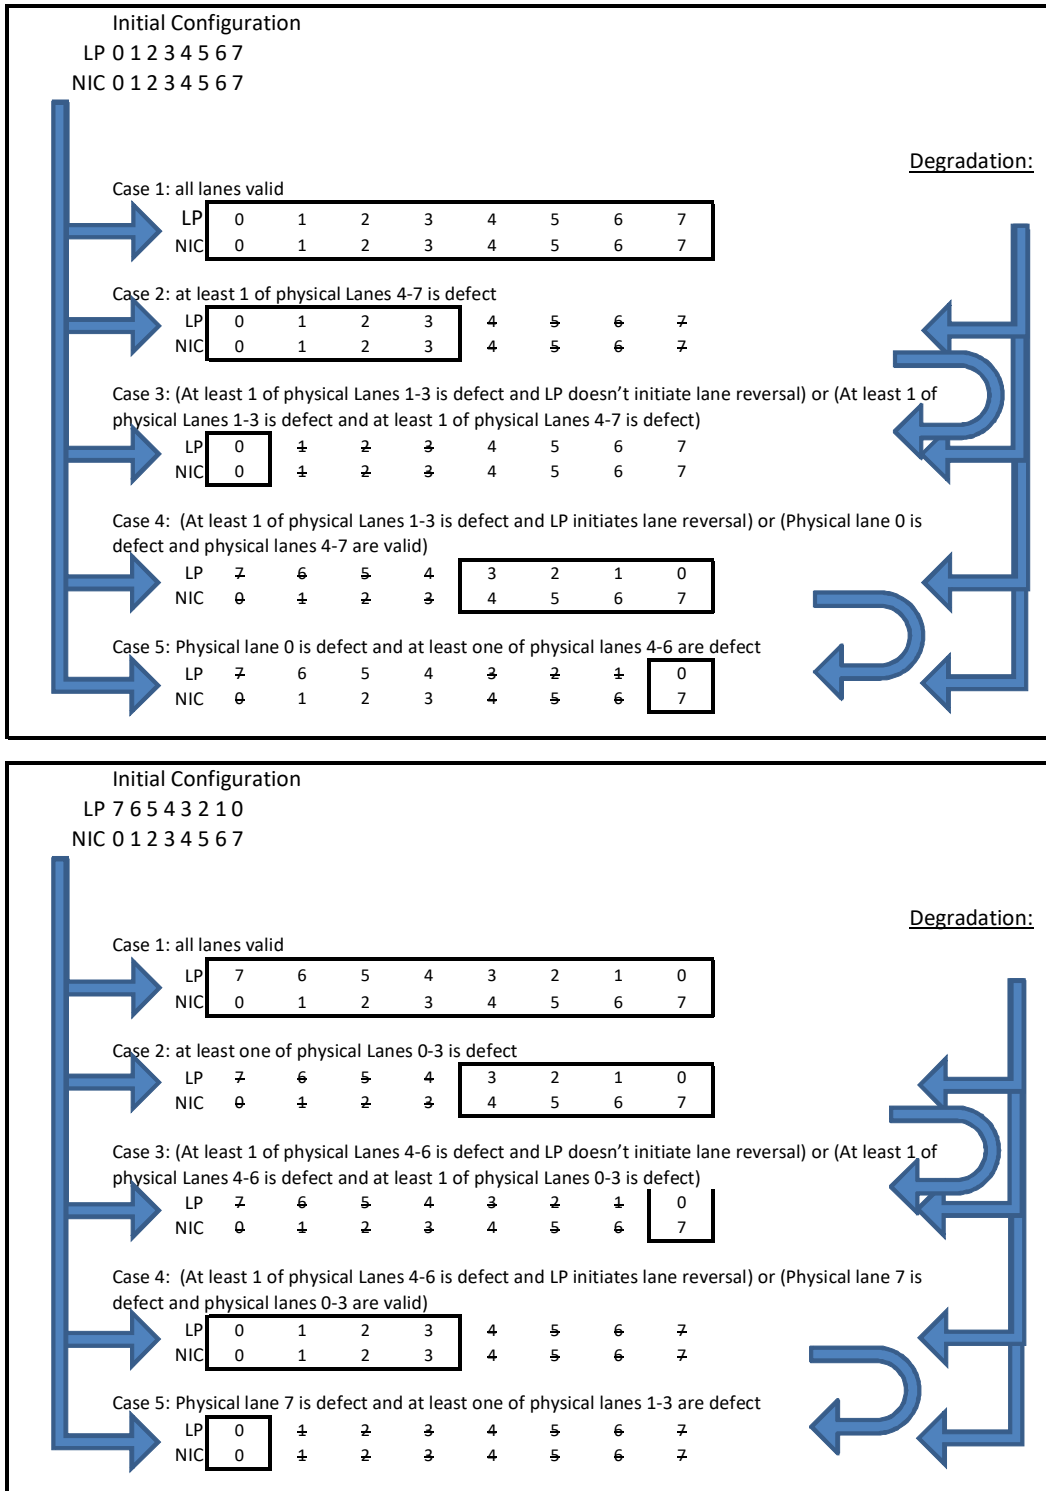
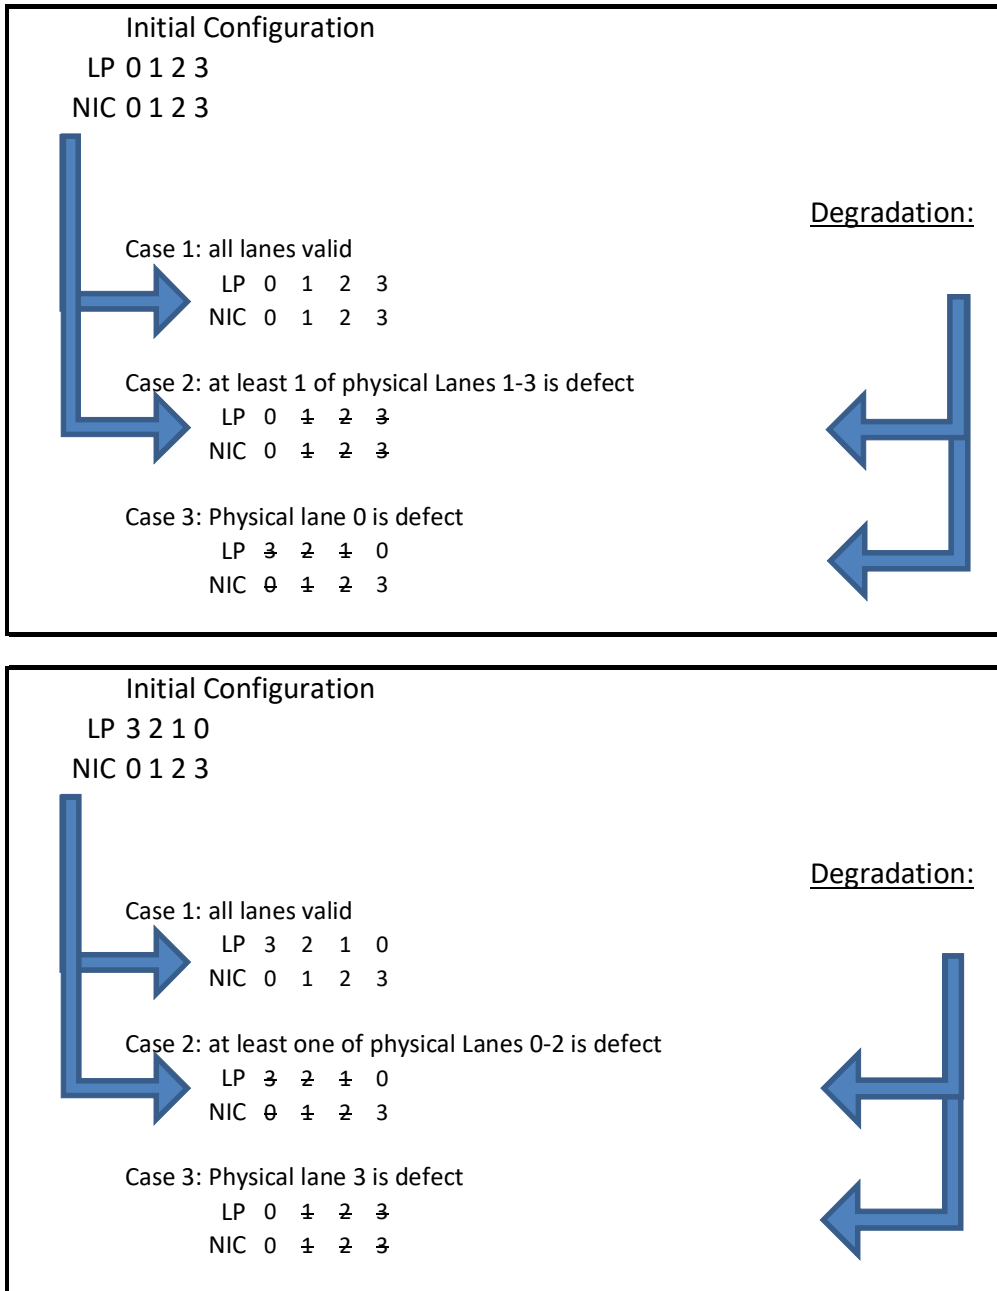
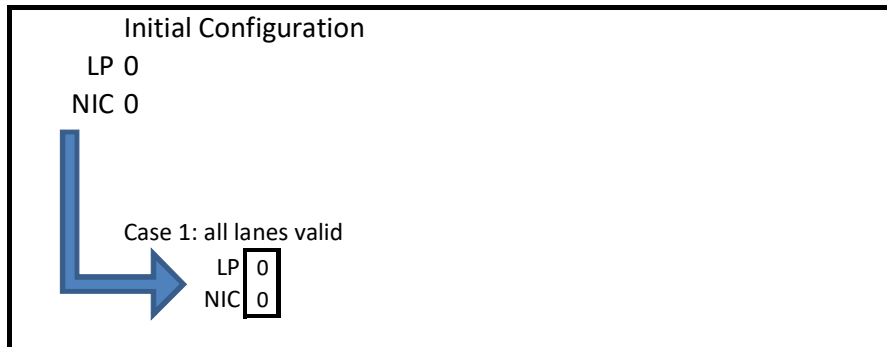

Figure 3-1. Link Width Configurations for a x8 Port
Figure 3-2. Link Width Configurations for a x4 Port
Figure 3-3. Link Width Configurations for a x1 Port
- If lane 0 is found valid, the X550 does not initiate lane reversal. The link partner (LP) may initiate lane reversal (to end up with an optimal lane width) and the X550 consents with the lane reversal.
Figure 3-1, Figure 3-2, and Figure 3-3 depict the initial link width configuration and link degradation options. In Figure 3-1 and Figure 3-2, the upper part of the Figure describes link options where the Link Partner (LP) and the X550 (NIC) are aligned. The bottom part of the Figure describes link options where the Link Partner and the X550 are reversed in order.
- Figure 3-1 applies when either the Link partner or the X550 is physically set to x8.
- Figure 3-2 applies when either the Link partner or the X550 is physically set to x4 and both are not physically set x8.
- Figure 3-3 applies when both the Link partner or the X550 is physically set to x1.